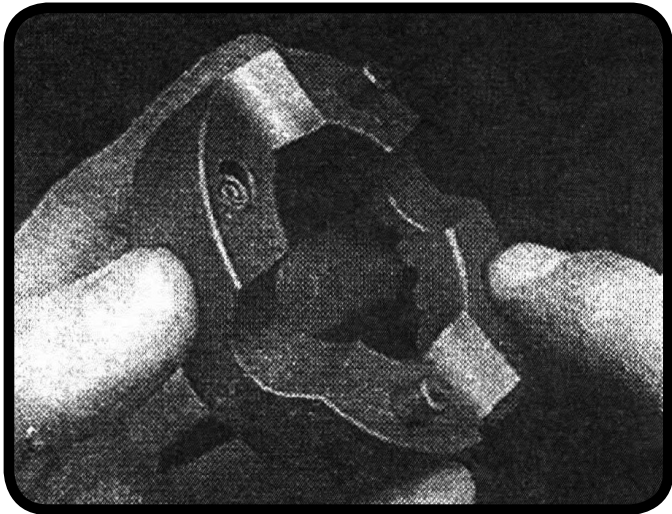

Figure 7
Coat the teeth of the drivers and both sides of the thrust washers with medium grease. Also place a little grease in each of the two window holes in each driver (**Figure 7**). The grease will help hold things in place and assist with functioning until the gear oil circulates.
5. Place a spring assembly into each hole in the other driver. Place a little more grease on top of the springs to help hold them in place (see **Figure 7**).